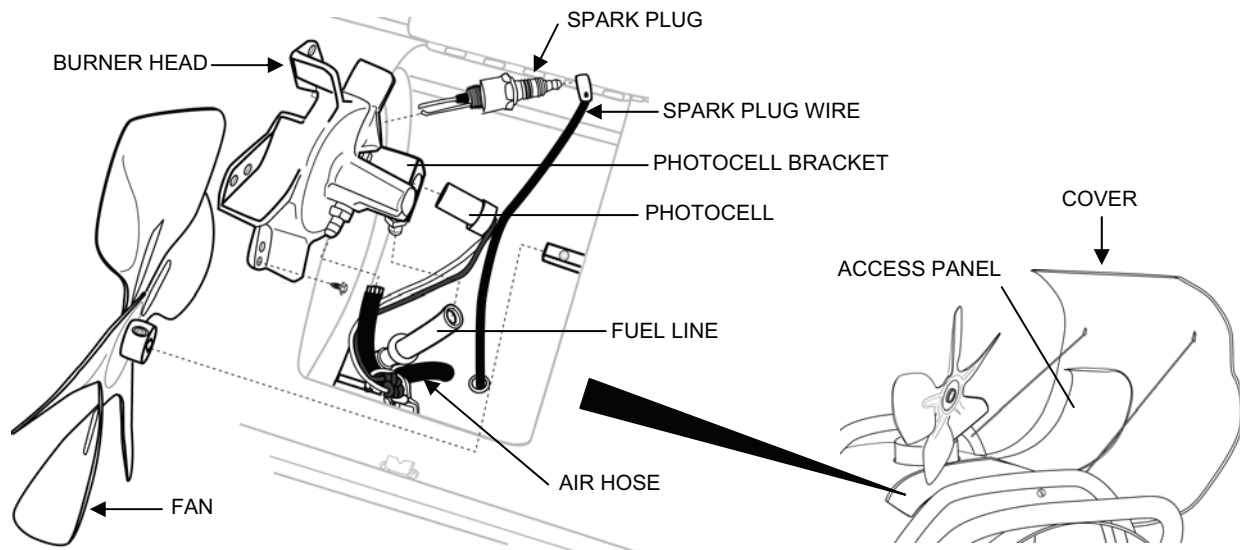

Figure 1. Diesel Heater Burner Head Removal.
- e. Loosen the setscrew that secures the fan to the motor shaft and slide the fan off the motor shaft. (Removing the fan makes it easier to access the burner head and reduces the chance of damaging the fan.) (See Figure 1).